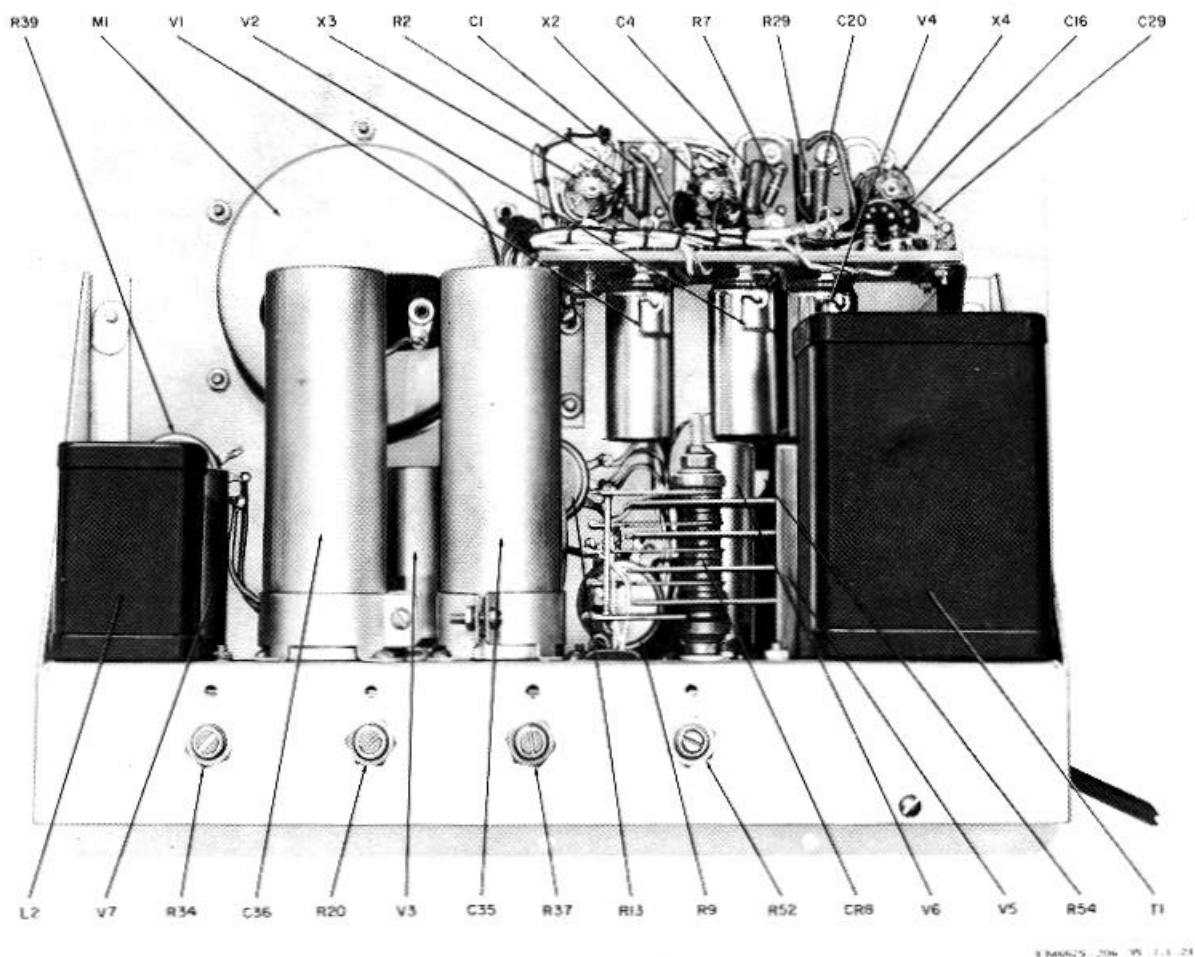
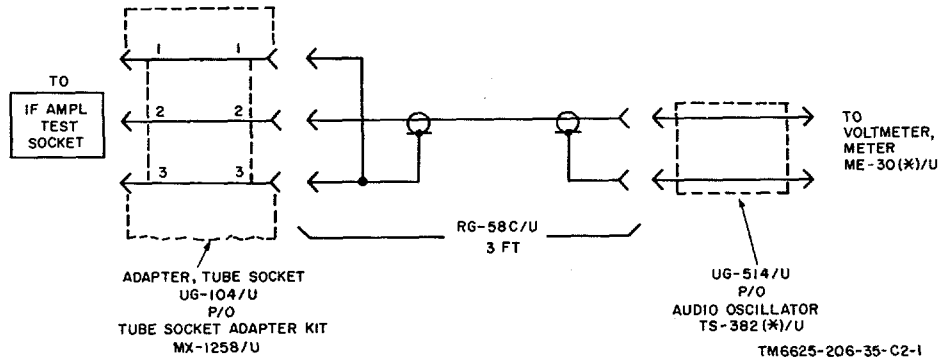
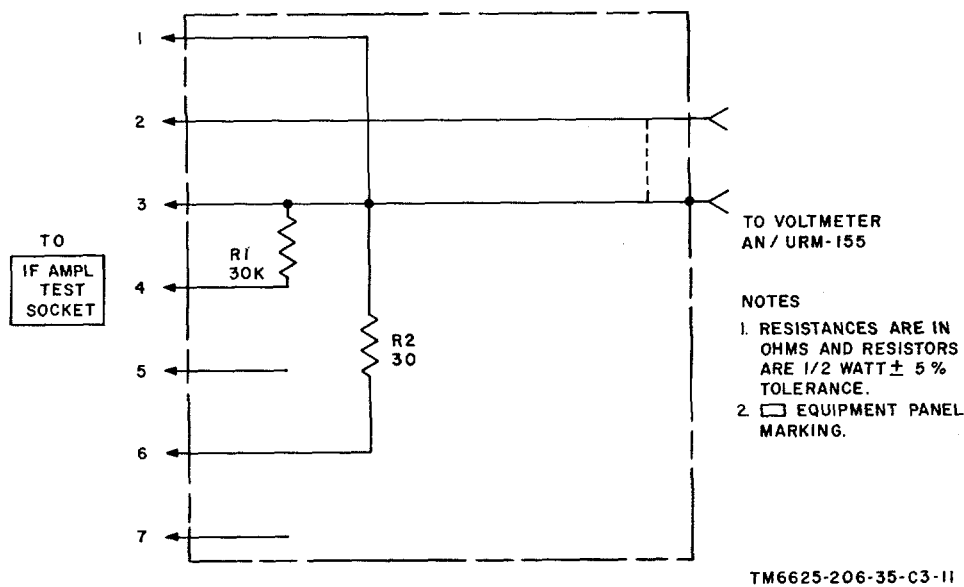

Figure 20. Test set, rear view.
Figure 22.1. If. amplifier sensitivity special test setup, schematic diagram (AN/URM-113).
Figure 22.2. Special test plug (Hickok part No. 16525-239), schematic diagram (AN/URM-113A).
Page 20, figure 20. Delete figure 20 and substitute the new figure 20.
b. Plug the special test plug (fig. 22.2) into the IF AMPL TEST SOCKET; this places a 30-ohm load on the +1.5-volt dc bus.
d. Press the PRESS FOR FILAMENT CAL button and adjust R52 (fig. 20) until the meter pointer rests at the CAL LEVEL line.
b. Set the FUNCTION SELECTOR to CAL LEVEL and the FREQUENCY SELECTOR to L. Adjust the RF CAL control and rf level calibration control R34 (fig. 20) to indicate 310 on the numerical scale of the test set meter
a. Connect the rf voltmeter (.set to 1 volt range) to the special test plug (fig. 22.2) and insert the plug into the DISCR TEST SOCKET.
f. Set the FUNCTION SELECTOR switch to CAL LEVEL and adjust R34 (fig. 20) until the meter test set indicates at CAL LEVEL.
b. Set the FUNCTION SELECTOR switch to DISCR TEST and adjust the DC CENTER ADJ control until the meter pointer rests at the DC CENTER line. If this adjustment cannot be made, refer to paragraph 21*d*, item 10.
c. Apply -7.2 volts from the meter test set to pin 7 of test socket X4 (fig. 20). Adjust discriminator calibration control R37 (fig. 20) until the meter pointer
e. Set the FREQUENCY SELECTOR switch to CTR. Connect the rf voltmeter (set to 30 mv range) to the special test plug (fig. 22.2) and insert the test plug into the IF AMPL TEST SOCKET.
b. Monitor the voltage at pin 2 of the IF AMPL TEST SOCKET (use the special test setup as shown in fig. 22.1 or 22.2) and adjust the RF CAL control for 150 mv.
d. Remove the special test setup (fig. 22.1 or 22.2) and insert TEST PLUG P2 (fig. 1, TM 11-6625-206-12) in the IF AMPL TEST SOCKET. Adjust IF calibration control R20 (fig. 20) so that the test set meter of the AN/URM-113 indicates at 50 on the numerical scale, or the test set meter of the AN/URM-113A indicates at the CAL LEVEL line. Remove TEST PLUG P2 and reinstall the special test setup (fig. 22.1 or 22.2). Recheck with the rf voltmeter for 150 mv. Remove the test setup and ,reinsert TEST PLUG P2.
(As added by C 2, 28 Nov 62). Add figure 22.1 after paragraph 31:
Add figure 22.2 after figure 22.1:
d. Set the FUNCTION SELECTOR switch to IF TEST and monitor the voltage at pin 2 of the IF AMPL TEST SOCKET; use the special test setup as shown in figure 22.1.
a. Plug the special test plug (fig. 22.2) into the IF AMPL TEST SOCKET. This places a
d. Adjust the audio oscillator for a 5-volt rms, 500-cps output. Connect the audio oscillator to the special test plug (fig. 22.2) and insert the plug into the PULSE SW GEN TEST SOCKET (meter test set indication will change to 0 SET when this is done).